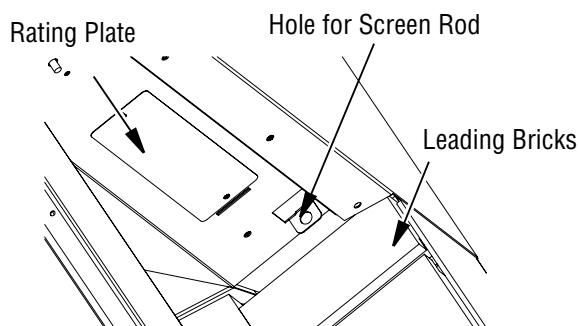

Figure 34 - Installing Fireplace Screen
2. Bend tab on both sides with the hole down to insert the round end screen rod into hole on the left and right side of smoke shelf (Figure 34).